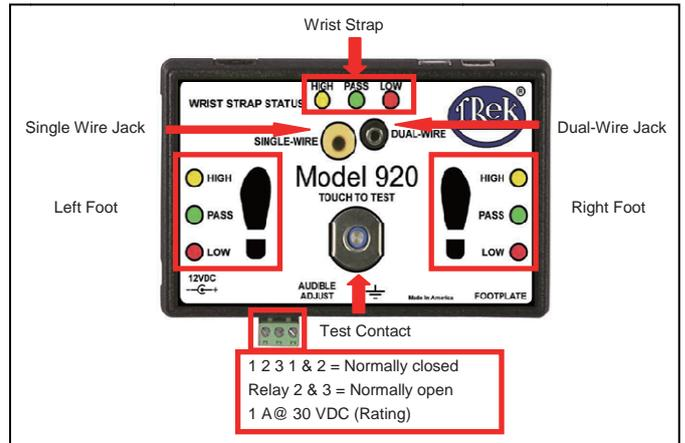

Figure 3. Model 920 panel
A relay with both "normally open" and "normally closed" contacts is included for your convenience. Going from left to right, the terminal block on the bottom of the tester has terminals for "normally closed," "common," and "normally open" (see Figure 3). The relay can be used for opening an electric lock to an ESD protective area. The maximum contact rating is: 1A@30VDC.
- II. While wearing the wrist strap and foot wear*, plug the banana plug end of the cord into the jack (both single wire and dual wire wrist straps can be tested with the Model 920, make sure the correct jack is used. See Figure 3) on the face of the unit and step on to the test plate so that one foot is on each test plate. NOTE: DO NOT TOUCH ANY OTHER METAL WHILE PERFORMING TEST.